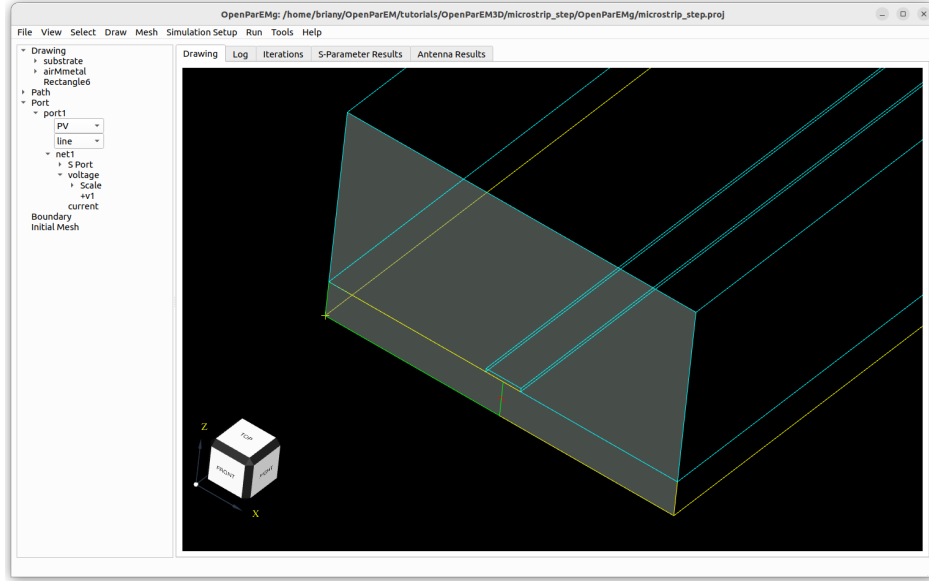

Figure 10: Port 1 view with construction rectangle shown in green and integration path with red arrowhead.
- Add a voltage integration line between the bottom of the substrate to the top of the substrate, which is also the bottom of the microstrip line. Use the construction rectangle as a guide. The constructed port 1 should look like that in Fig. 10.